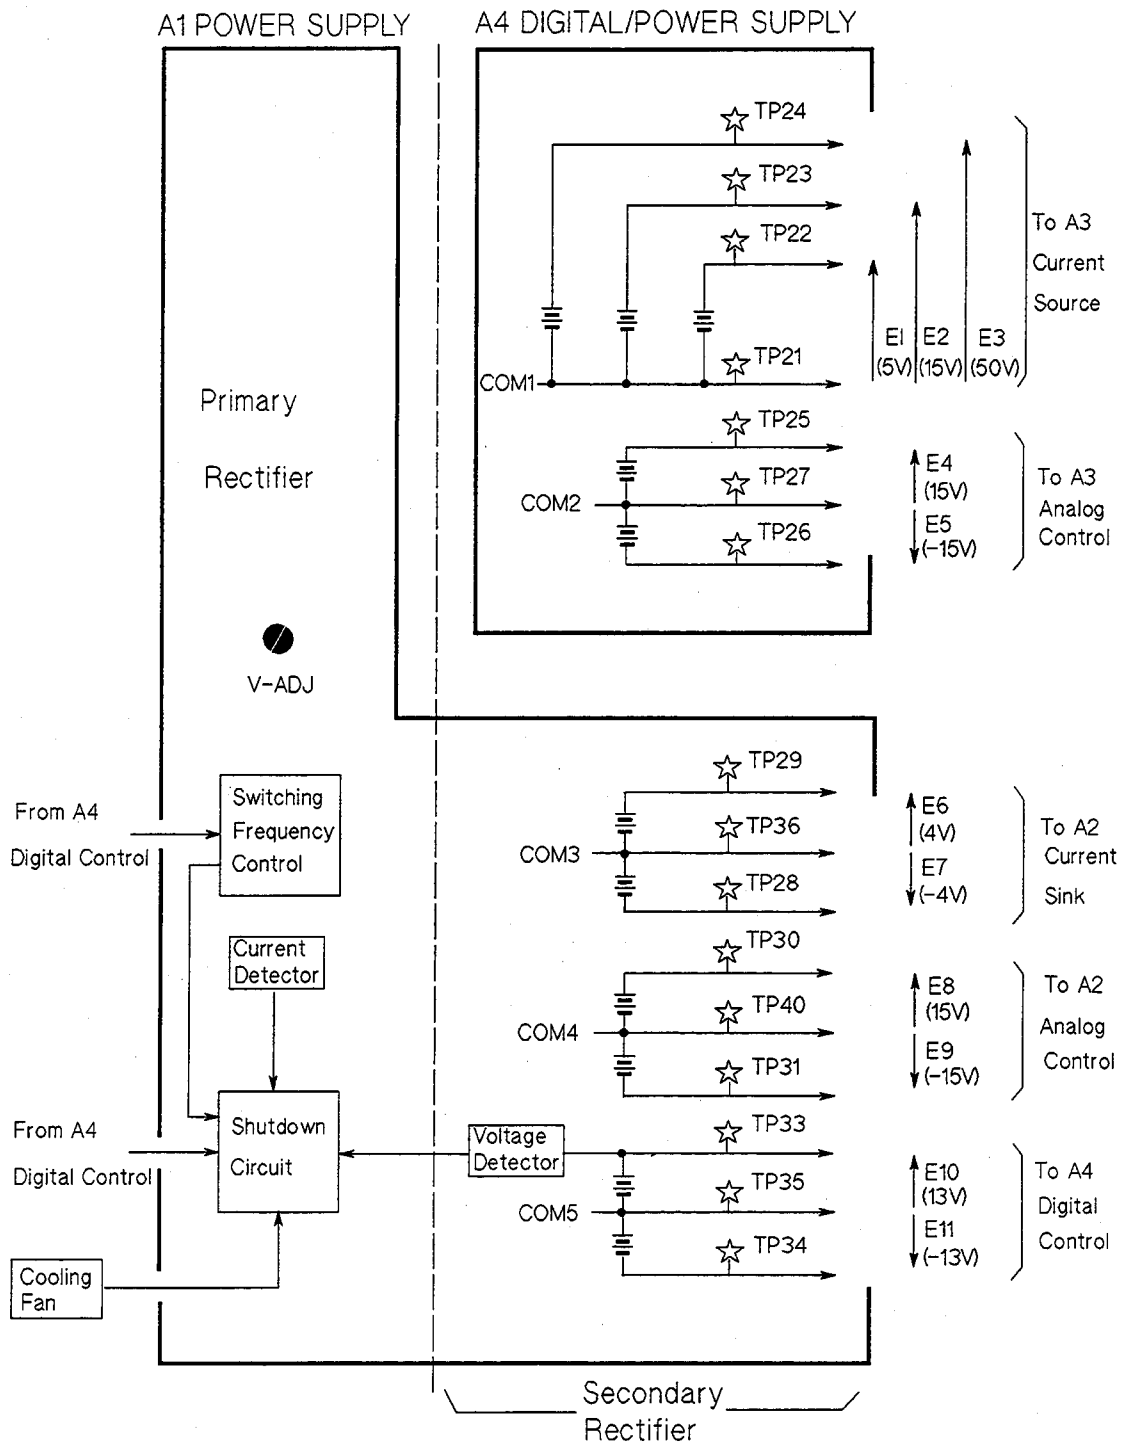

Figure 5-2. Power Supply Block Diagram
2. Check the cooling fan supply voltage (E10 and E11 in Figure 5-2), according to Paragraph 5-7-2 Power Supply Voltage Check.
1. Check the power supply voltages on the A4 board (E1 to E5 in Figure 5-2), according to the voltage check-out procedures given in Paragraph 5-7-2.
If all of the Test Point are incorrect, check supply voltages E6, E7, E8, and E9, shown in Figure 5-2, according to Paragraph 5-7-2, Power Supply Voltage Check. If still inoperative, replace the A4 board.